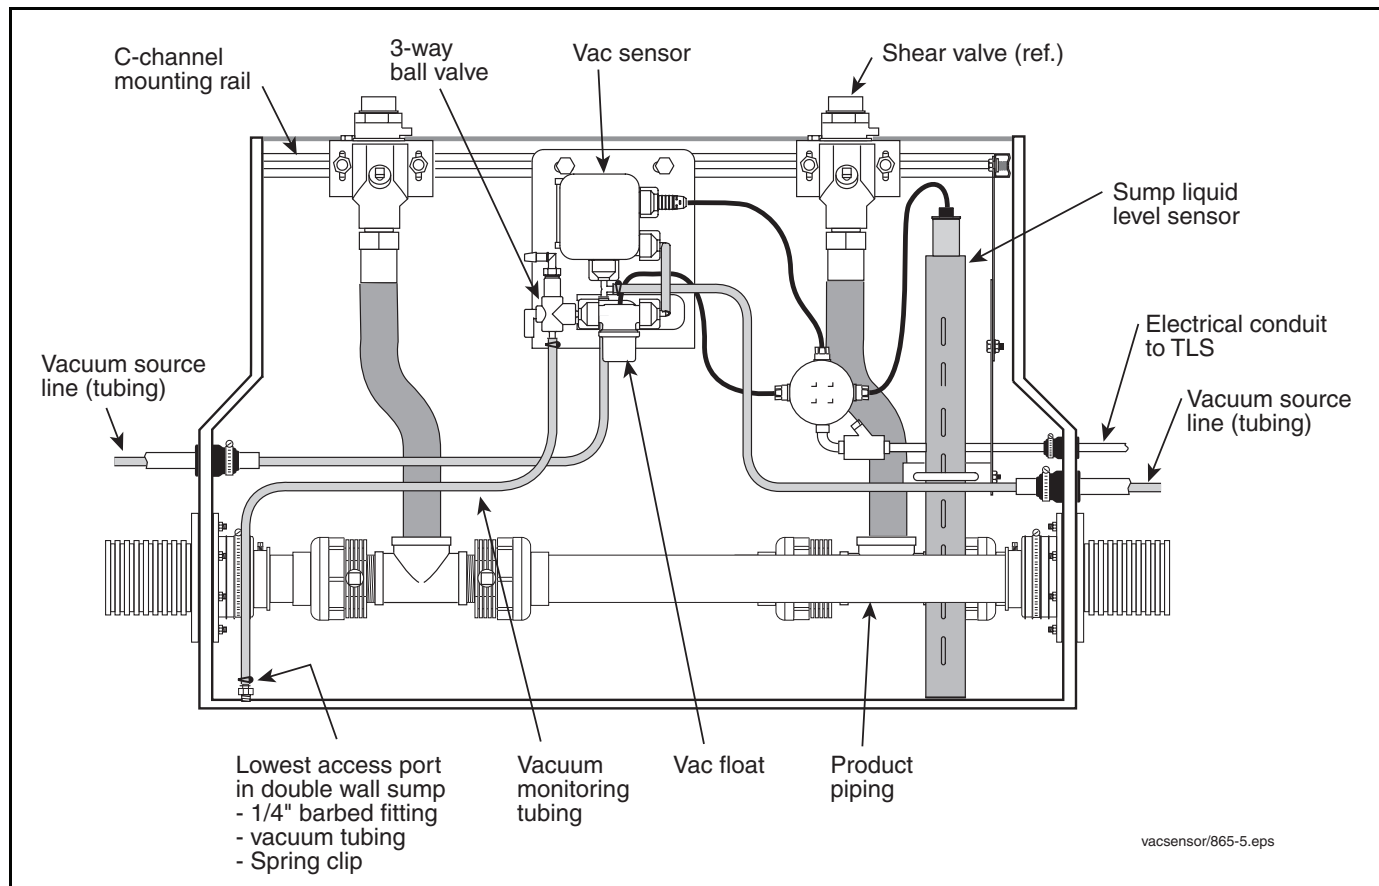

Figure 4. Example Vac Sensor sump installation
4. Install a Vac Sensor assembly in each dispenser/vent sump to be monitored (see Figure 4).